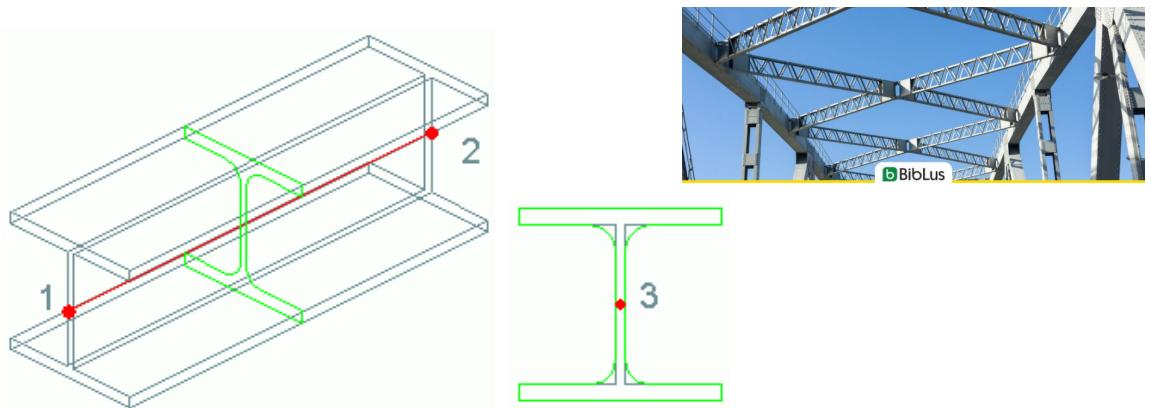

Fig 6: Beam element (Image courtesy: Autodesk)
- Beam element is defined by 2 end nodes and a cross-section. (Fig 6).